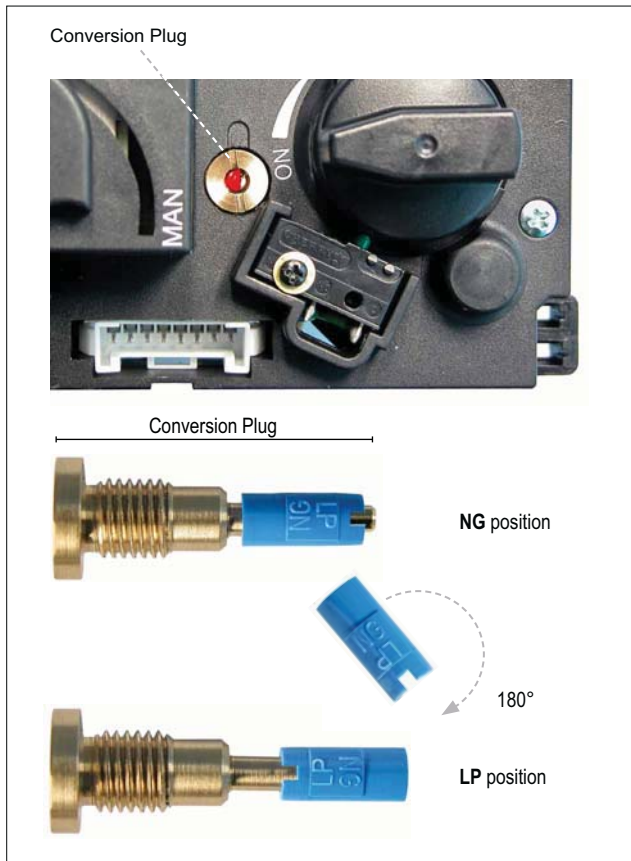

Figure 18: Conversion from one gas to another
Convertible regulators are designed to deliver either of two fixed outlet pressures for Natural Gas (NG) or LP Gas. To change from one gas to the other, turn the conversion plug (see figure 18, page 14) counter-clockwise ↻ to remove. Unsnap and remove the plastic part, rotate it 180°, and then slide it back on the conversion plug until it snaps.